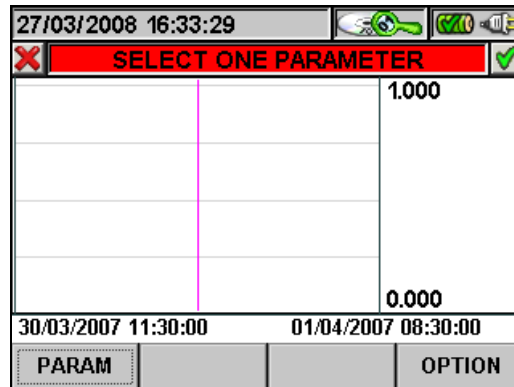

Fig. 90: Selecting a parameter
- The **ESC** key (or smart icon) to exit the function and go back to the "Selecting a parameter" page (Fig. 90).
- The **ESC** key (or smart icon ) to exit the function and go back to the “Selecting a parameter” page (Fig. 90).
3. Press the **ESC** key (or the smart icon ) to exit the function and go back to the “Selecting a parameter” page (Fig. 90).